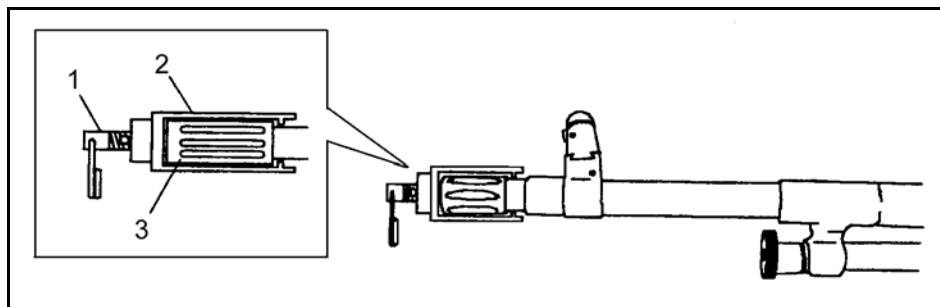

Figure 3-7. Attach the blank firing attachment.
(1) **Attach the BFA** (Figure 3-7). Unscrew the shaft (1) until it slides all the way to the rear. Install the chamber device (2) over the flash suppressor (3). Slide the shaft (1)